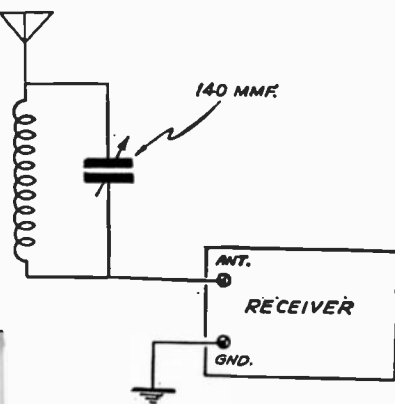

Fig. 205
A. The wave trap shown in the diagram (Fig. 205) can be connected in series with the antenna lead to the receiver and tuned to the frequency of the interfering station. It will eliminate any station on that frequency from the receiver input. In order to handle a wide frequency range, several coils will be needed. They can be either of the plug-in type or built onto a switch. In either case, the coil and condenser should preferably be shielded.